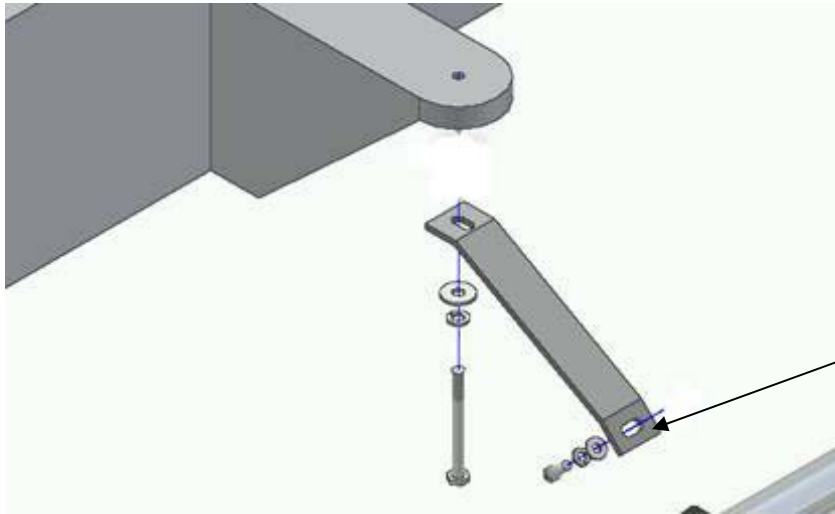
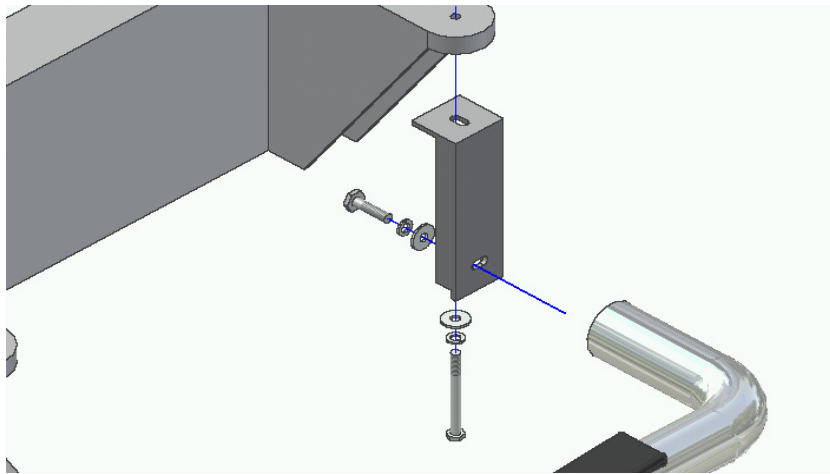

Figure 1.3 – Center Brace
Figure 1.4 – Rear Bracket
3. Attach and secure Rear Mount Bracket to underside of vehicles rear body mount as shown in Figure 1.4, in same manner as the front. Repeat for Center Brace,(see Figure 1.3).
4. Attach Side Tube to Front and Rear Brackets using (1) 1/2" x 2" bolt, (1) 1/2" lock washer and (1) 1/2" flat washer for each bracket, and hand tighten. Fasten Center Brace to Side Tube using (1) 5/16" x 1" bolt,(1)5/16" Flat washer and (2) 5/16" flat washer. Adjust Side Tube so that it is level and centered, and tighten all bolts to complete the driver-side assembly.